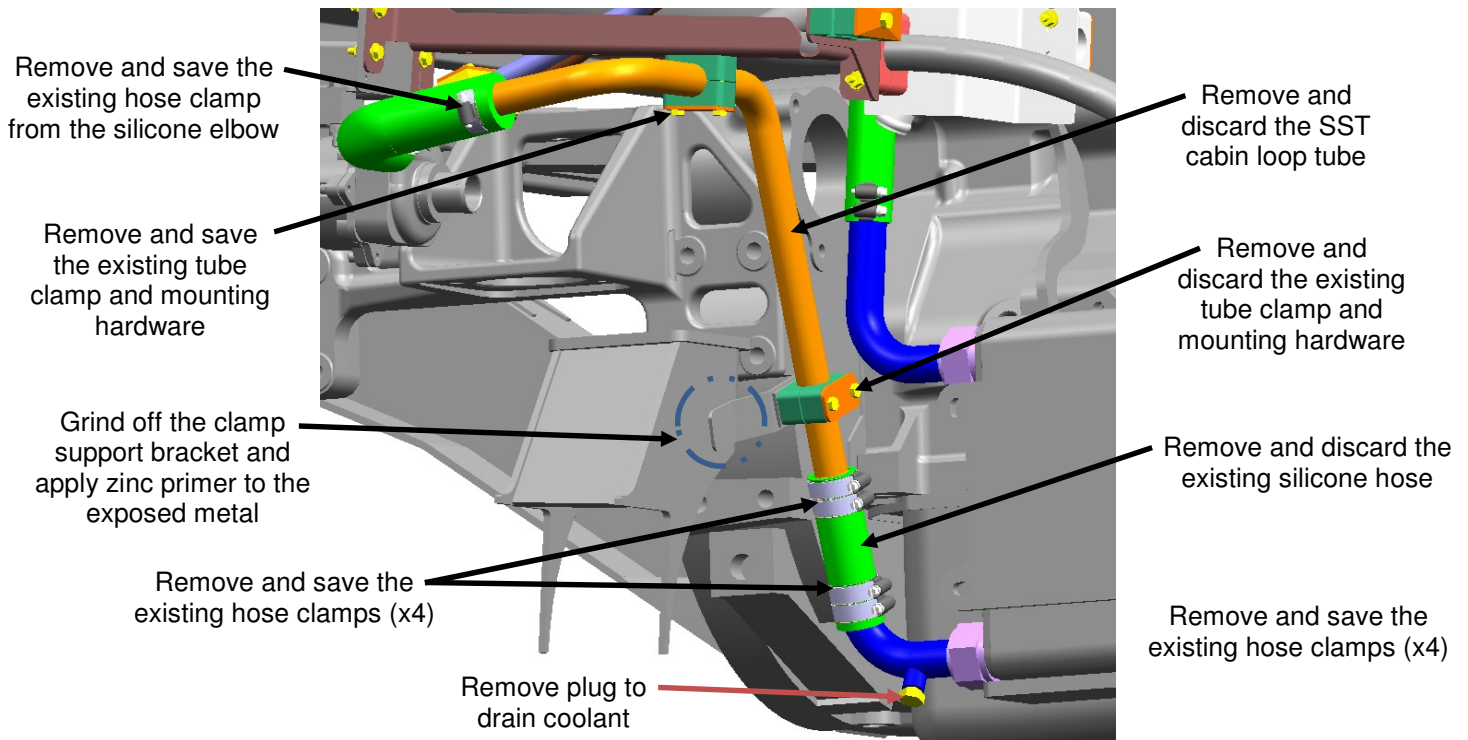

Figure 2: Cabin Heat Coolant Tube Removal
4. Place a suitable container under the heat exchanger cabin loop drain plug. Remove and save the drain plug and drain cabin heat coolant circuit. See Figure 2.
6. Remove and save the existing tube clamp and mounting hardware supporting the heat exchanger cabin loop SST tube to the degas frame as shown in Figure 2.
7. Remove and discard the existing tube clamp and mounting hardware supporting the heat exchanger cabin loop SST tube to the engine mount as shown in Figure 2.
8. Remove and save the existing hose clamp from the silicone elbow on the booster pump line to the SST cabin loop tube, see Figure 2.
9. Remove and save the existing hose clamps (x4) from the silicone hose connecting the heat exchanger 90° SST elbow to the SST tube to the booster pump, see Figure 2.
10. Remove and discard the existing silicone hose and SST cabin loop tube, see Figure 2.
11. Locate and grind off the clamp support bracket welded to the engine mount, see Figure 2.